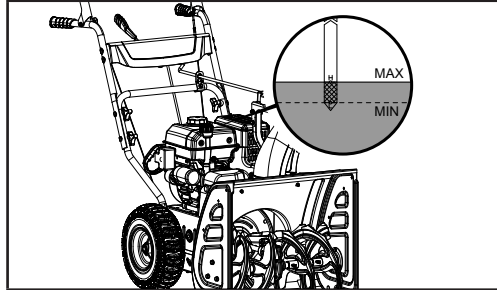

Figure 19
4. With the engine in a level position, fill to the upper limit mark on the dipstick with the recommended oil (0W-30) (Fig. 19).